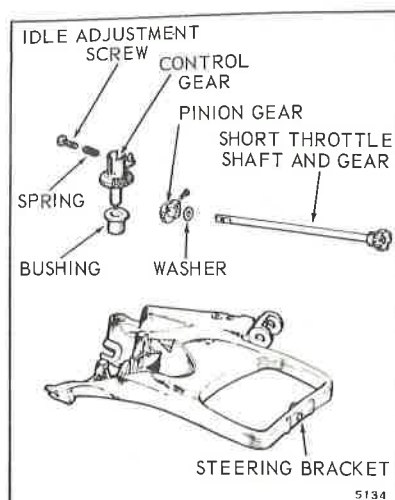

Figure 6-9. Throttle Control Disassembly
f. To remove throttle control gear, loosen screw holding pinion gear to short throttle shaft and gear assembly and withdraw shaft. Lift throttle control gear from bushing in steering bracket. Bushing can be pressed out if servicing is required. See Figure 6-9.